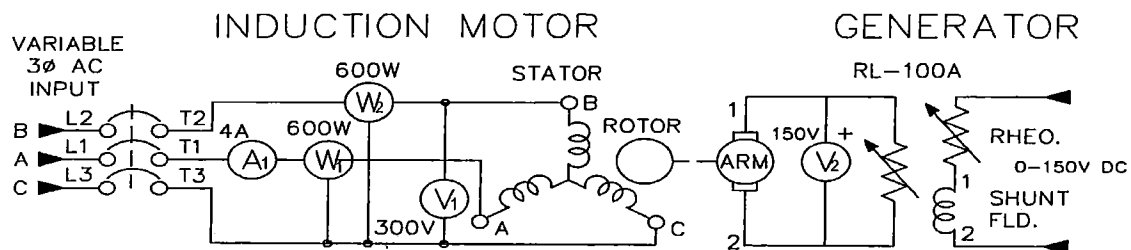

Figure 3: Motor and generator (with load)
1. Connect the dynamometer as shown in Figure 3. (Refer to Appendix C for schematic of generator.) Ground the dynamometer by connecting the green terminal on the machine to the green terminal on the console.